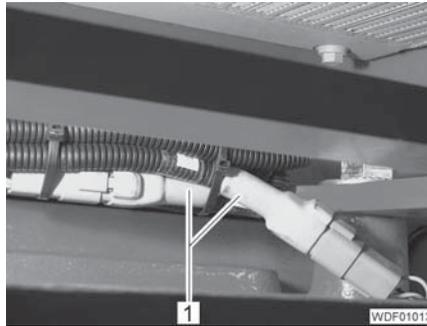
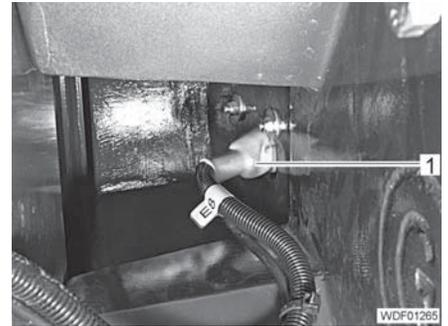

Fig. 274 Cable for the rear lighting
Fig. 275 Cable for the rear lighting (alternative)
- Remove 2 connectors (Fig. 274,1) or 1 connector each (Fig. 275,1) on both sides.
- Connect 2 connectors (Fig. 274,1) or 1 connector each (Fig. 275,1) on both sides.